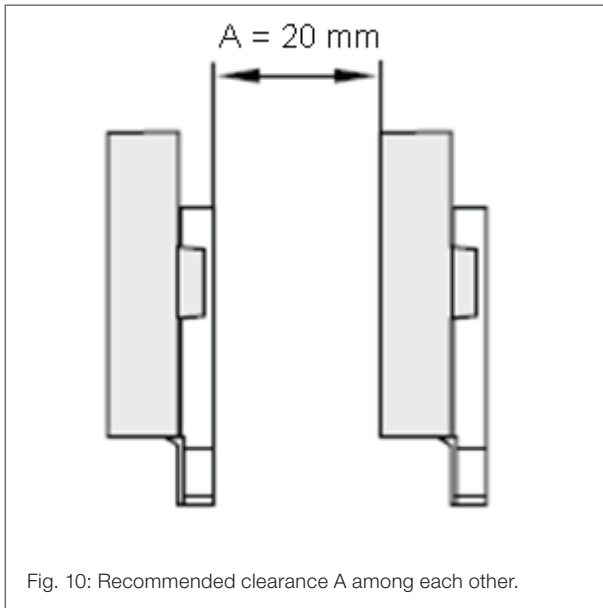

Fig. 10: Recommended clearance A among each other.
- For multiple sensor arrangements, it is recommended to place the sensors including their current feeds with a clearance (A) of at least 20 mm to each other as shown in Fig. 10. A smaller distance may cause cross talk to adjacent sensors. The primary current feeds in the PCB may not to be routed underneath a sensor.